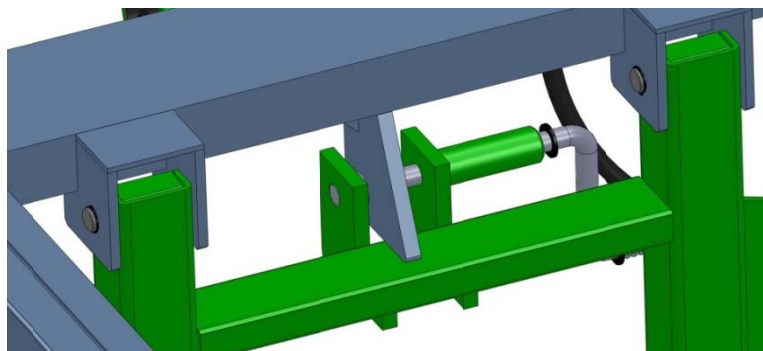

Figure 6.32
- d. Lock the movable support with locking bar. See figure 6.32